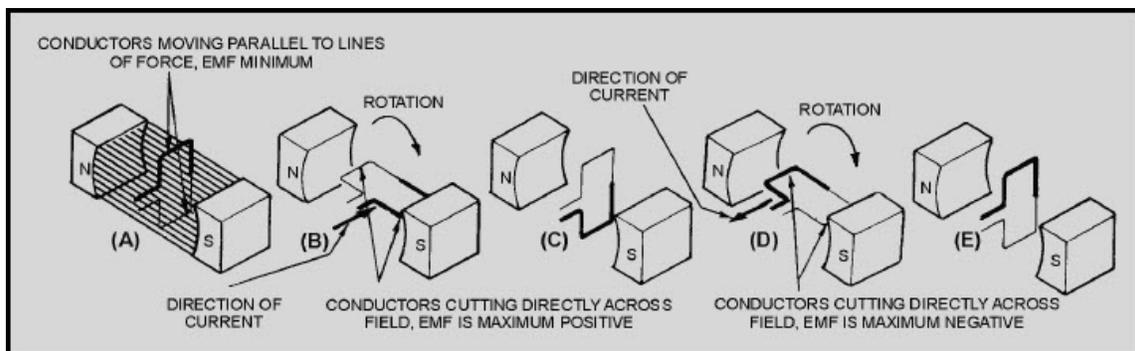

Figure 1-7 Simple alternating-current generator
Figures 1-7 and 1-8 show a suspended loop of wire (conductor) being rotated (moved) in a clockwise direction through the magnetic field between the poles of a permanent magnet. For ease of explanation, the loop has been divided into a dark half and light half. Notice in (A) of the figure that the dark half is moving along (parallel to) the lines of force. Consequently, it is cutting NO lines of force. The same is true of the light half, which is moving in the opposite direction. Since the conductors are cutting no lines of force, no emf is induced. As the loop rotates toward the position shown in (B), it cuts more and more lines of force per second (inducing an ever-increasing voltage) because it is cutting more directly across the field (lines of force). At (B), the conductor is shown completing one-quarter of a complete revolution, or 90° , of a complete circle. Because the conductor is now cutting directly across the field, the voltage induced in the conductor is maximum. When the value of induced voltage at various points during the rotation from (A) to (B) is plotted on a graph (and the points connected), a curve appears as shown below.